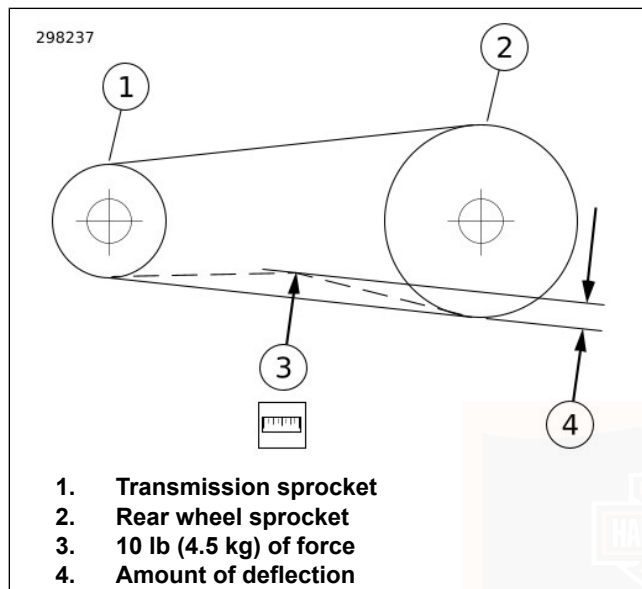

Figure 66. Checking Belt Deflection
- b. **All other models:** See Figure 66. Measure amount of deflection (4) while holding gauge steady.